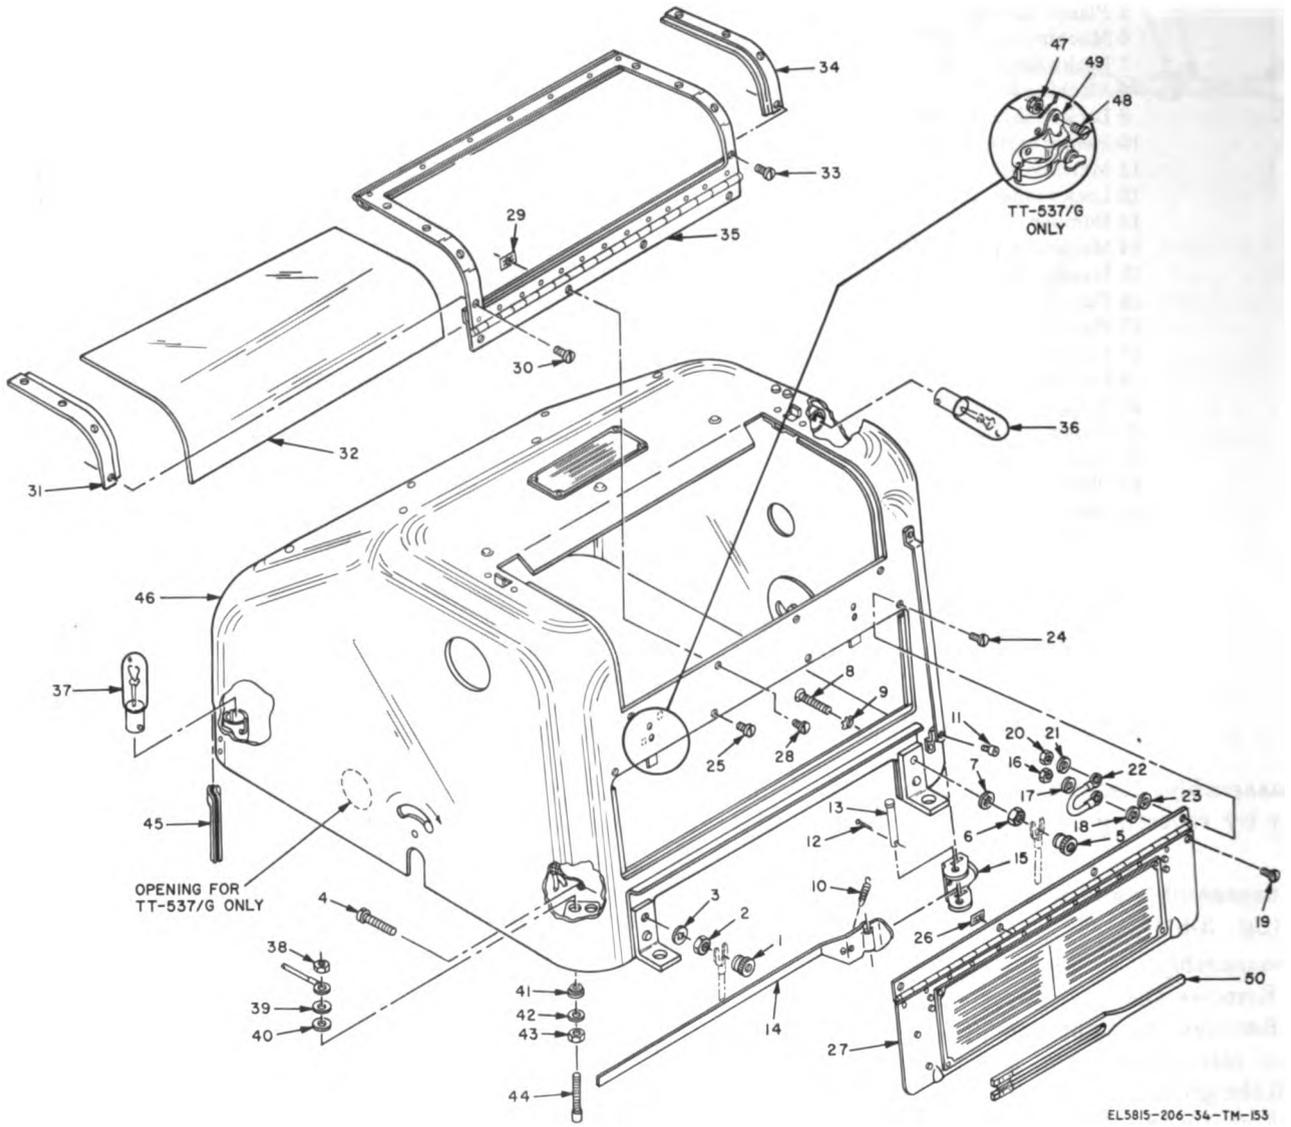

Figure 3-81. Dust cover, exploded view.
3-111. Disassembly and Reassembly of Dust Cover (fig. 3-81)
- (1) Remove the dust cover (para 3-22a).
- (2) Remove the thumb nut (1, fig. 3-81), plain hexagonal nut, lockwasher, and machine screw (4) that hold the ground loop of the copy light cable.
- (3) Remove the thumb nut (5), plain hexagonal nut, lockwasher, machine screw (8), and lockwasher from the dust cover.
- (4) Remove the holder slide spring (10) from the copy holder (14) and from the holder slide (15).
- (5) Remove the machine screw (11) and slide the assembled holder slide from the dust cover (46).
- (6) Remove the cotter pin (12) and pin (13) that hold the copy holder to the holder slide; remove the copy holder.
- (7) Remove the two plain hexagonal nuts (16 and 20), four lockwashers, and two machine screws (19 and 24) that hold the grounding bond (22) to the dust cover door and to the dust cover.
- (8) Remove the three machine screws (25) and
Refer to fig. 3-81:
- (1) Reassemble the dust cover as indicated in figure 3-81; the sequence for assembling the parts is the reverse of the disassembly sequence.
- (2) Adjust the copy light screws as described in paragraph 3-267.
- (3) Replace the dust cover (para 3-22b).